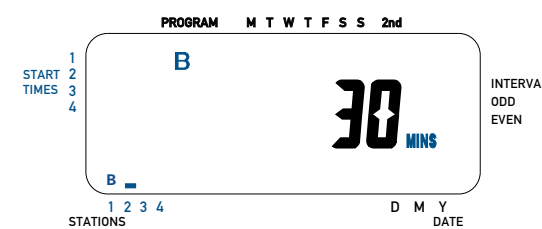

Figure 6: Entering Duration for “Program B”
- Turn the rotary dial to the **STATION DURATION** position in “Program B”. The display will show a “B” and MINS. [See Figure 6]
- Press and hold the **▲** or **▼** key to enter the watering duration and press the **ENTER** key. You should see a “B” over the Station just programmed. [See Figure 6]